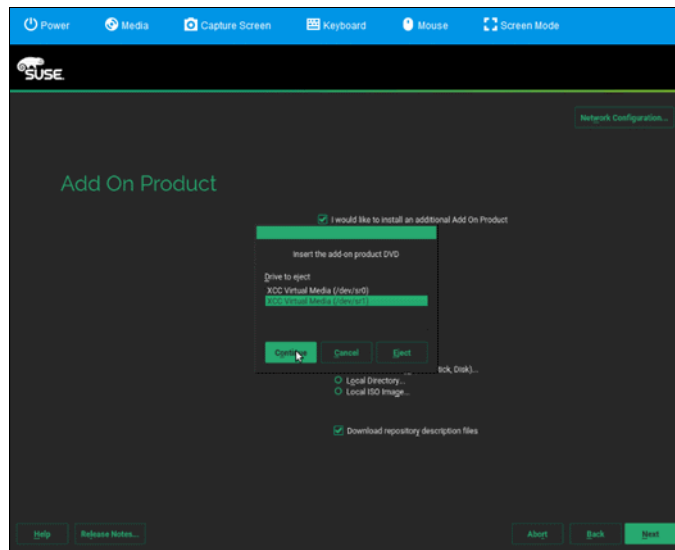

Figure 6-45 Add on product: storage driver ISO
12. The system will search for the mounted ISOs. There will be two devices listed (the ISO for the OS and the ISO for the drivers) as shown in Figure 6-45. Select the bottom device, as we mounted the driver ISO file second, then click **Next**.